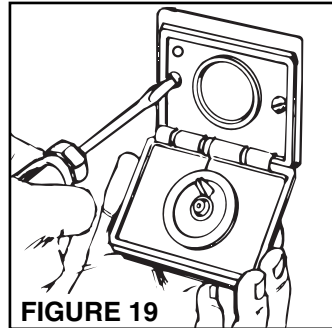

FIGURE 19
5. Refer to Figure 19. Place inlet into mounting bracket and secure.